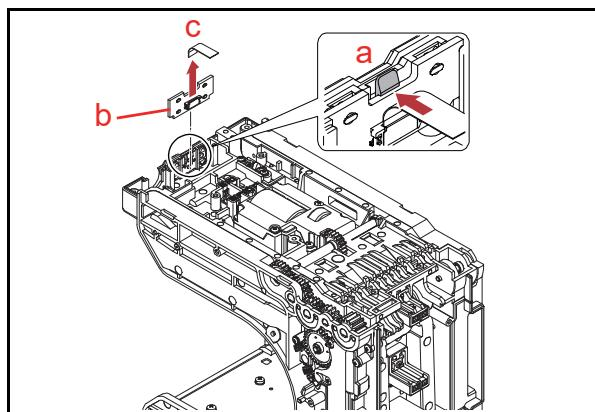

**Figure 4-20** Key Plate Removal
1. Remove the single (1) Screw (Figure 4-20 **a**) to remove the Key Plate (Figure 4-20 **b**).